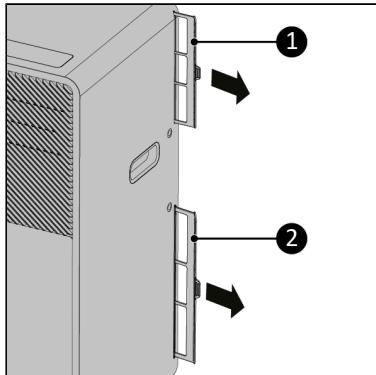

Figure 34.
3. The device has two filters on inside of the device. Pull out both filters (Figure 34, pos. 1 & 2) from the side of the device.